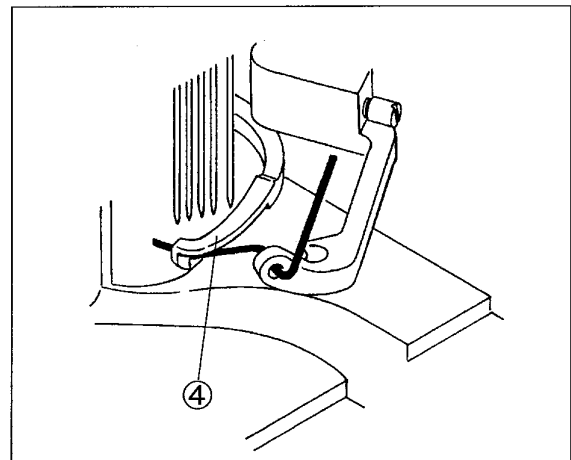

Fig. 6-10
The moment the top cover thread is hooked with the top cover thread hook ④ (Fig. 6-10), the thread is held at the point 0 - 1.0 mm apart from the top of the take-up ⑤.